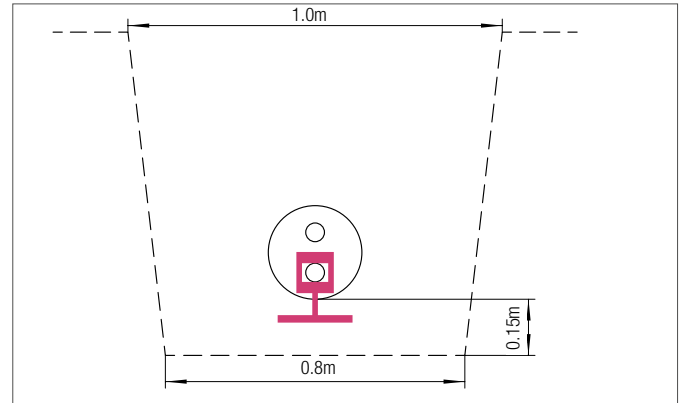

Fig. 2
For retrospective installation of a T-branch: 4.5 m long; minimum 0.8 m wide (see trench dimensions in Fig. 2 and section (A) Fig. 3); 0.15m working space under the pipe.